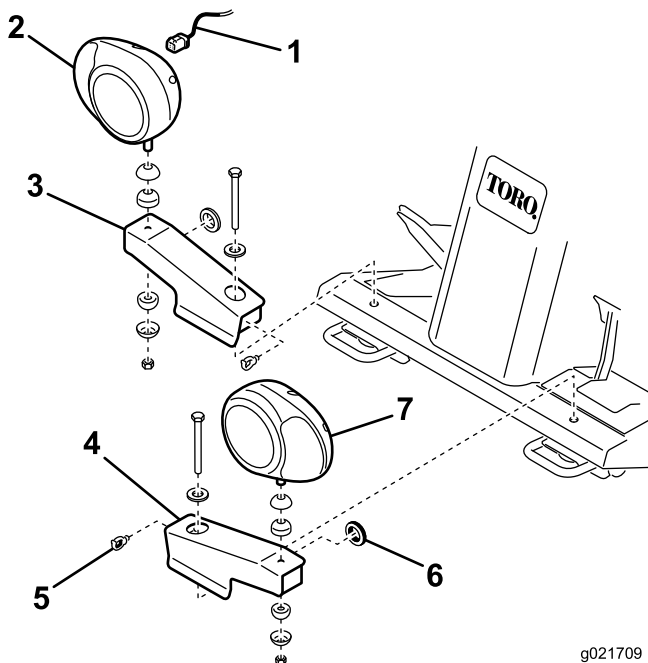

Figure 8
1. Bolt, washer and nut (2)
2. Install a rubber grommet into the hole in each headlight bracket (Figure 8).
3. Fasten the R.H and L.H. headlight brackets to the front of the operator's platform with the bolts, washers and nuts previously removed. Position the brackets as shown in Figure 8.
4. Fasten the R.H and L.H. headlight assemblies to the headlight brackets (Figure 8) with the fasteners supplied with the lights. Make sure the turn signal lens on the headlight is positioned toward the outside of the machine.
7. Insert each harness connector through the end of the appropriate harness bracket, out the hole (grommet) and connect it to the headlight (Figure 8).